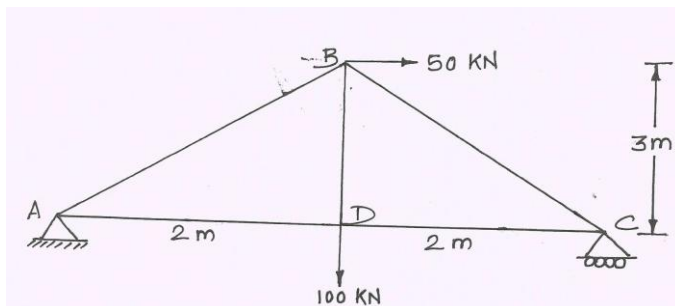

Figure-1
- (c) Analyse the plane truss shown in Figure-1 using Tension Coefficient Method. **07**